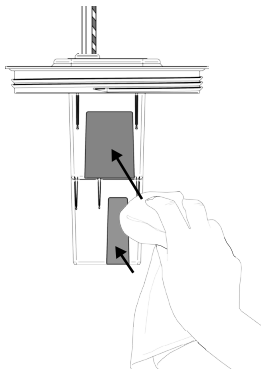

Figure 10 Cleaning/Maintenance
- Fig. 10 Cleaning/Maintenance
For best performance, the sensor faces on the lid **must be** cleaned from debris/residue regularly, at least every 3 months. See Figure 10. Do not use an abrasive cleaner.